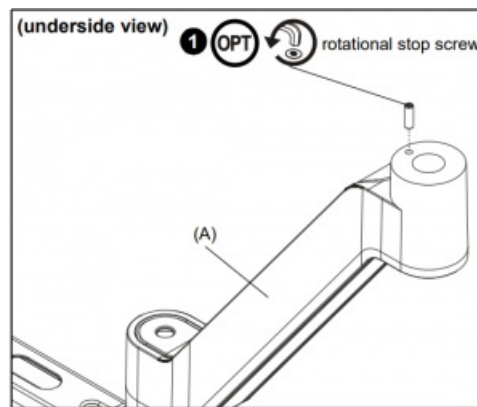

Figure 6
**IMPORTANT !** : If rotational stop is not desired, rotational stop screw must be removed prior to installing arm to base assembly. (See Figure 6)
1. (Optional) Use hex key to remove rotational stop screw if rotational stop feature is not desired. (See Figure 6)
**NOTE:** This section only applies if the pivot stop screw is removed. (See Figure 6)